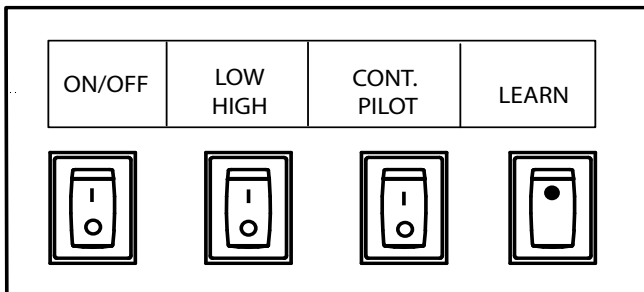

Fig. 41 Control panel
1. To **LEARN** (pair) the remote transmitter to the control module, press and release the LEARN button (switch) in the control box. See Fig. 41. You will hear single audible beep indicating the module is ready to learn the transmitter security code. Press any button on the transmitter within 60 seconds. The code is accepted when you hear 4 short beeps in rapid succession. Security codes will be retained in memory indefinitely if power is removed. **Note:** Control module accepts a total of three (3) wireless transmitters.